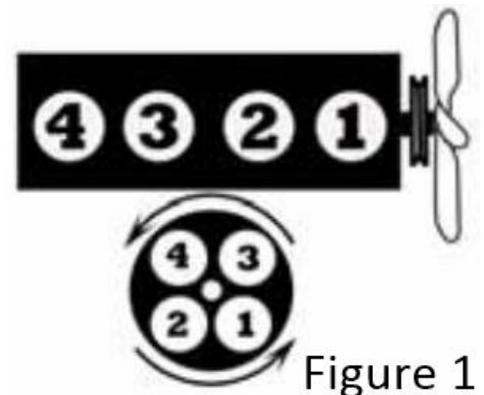

Figure 1
- The firing sequence of the 4-134ci engine is 1-3-4-2 (#1 is the front cylinder of the engine, #4 is the rear cylinder). The distributor rotor turns counter-clockwise. See Figure 1.
12. Attach spark plug wires to the cap in the correct order (see Figure 1).